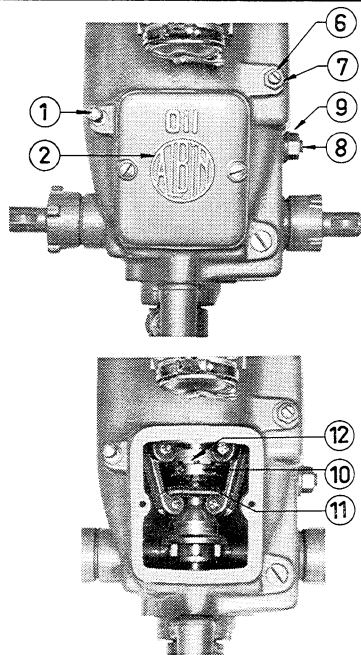

Fig. 21 1 Oil dipstick
If slipping occurs when running astern, this can be eliminated by adjusting the screw 6 fig. 21.
- 1 Slacken the locking nut 9, fig. 21.
- 2 Slacken the stop screw 11, fig. 21, until it is clear of the groove in the locking washer 12.